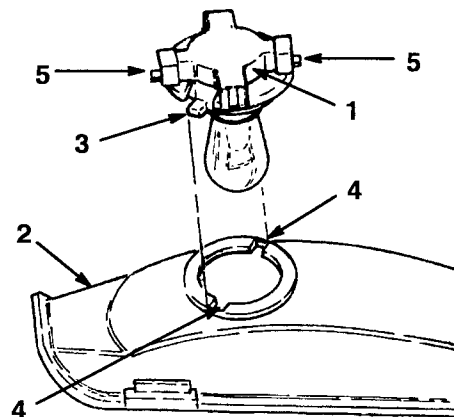

Figure 46
3. Rotate the bulb holder 1/4 turn counterclockwise and remove it from the reflector (Fig. 46).
2. The bulb holder has two tabs (Fig. 46). Align the tabs with the slots in the reflector, insert the bulb holder into the reflector and rotate it 1/4 turn clockwise until it stops.